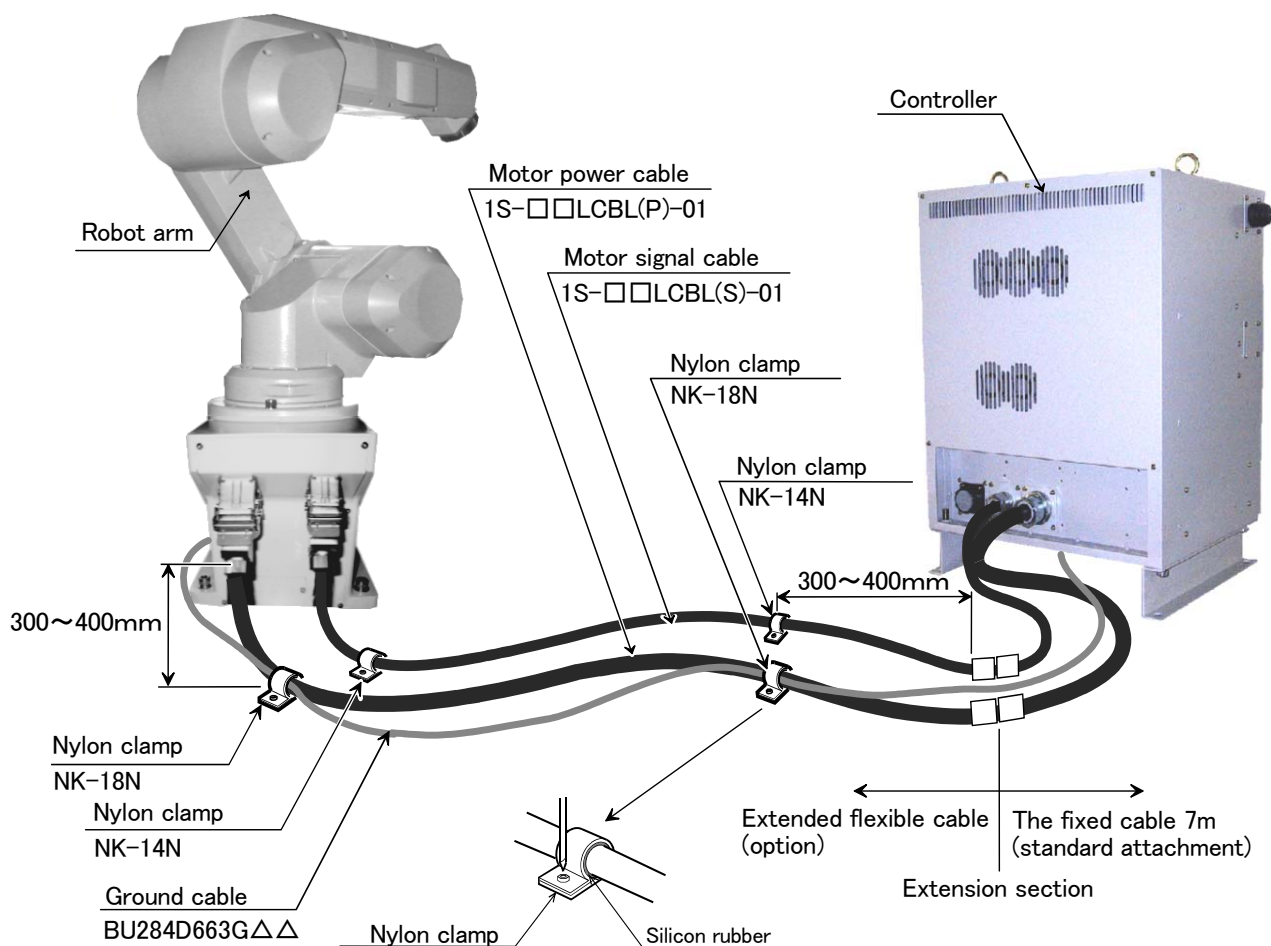

Fig.2-12 : Fixing the flexible cable
- (1) Connect the connector to the robot arm .
- (2) Wind the silicon rubber around the cable at a position 300 to 400 mm from the side of robot arm and extension section as shown in Fig. 2-12, and fix with the nylon clamp to protect the cable from external stress.